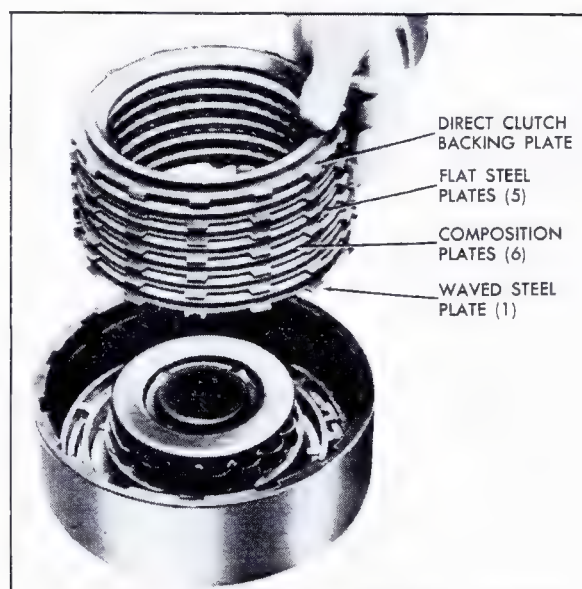

Fig. 7-200 Installing Direct Clutch Plates
g. Lubricate the five flat and one waved (plate with "U" notch) steel and six composition clutch plates with transmission fluid and install clutch plates in direct clutch housing. Start with waved steel plate and alternate composition and flat steel clutch plates, Fig. 7-200.